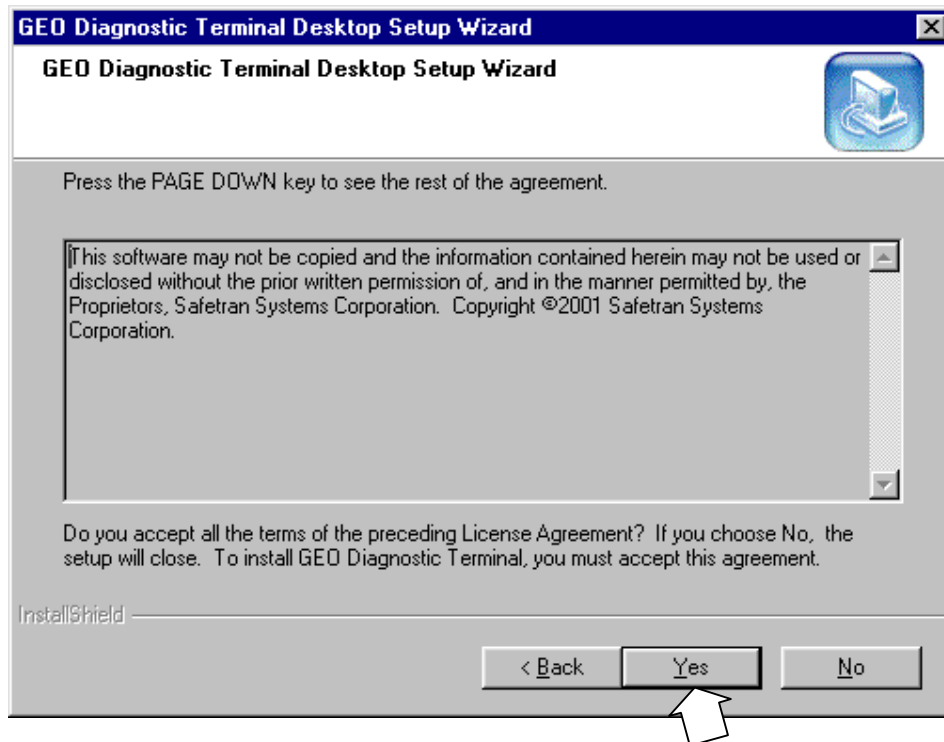

Figure 2-2
1. If this is a first time installation of the GDT utility on this computer, the “License Agreement” window is displayed (figure 2-2).